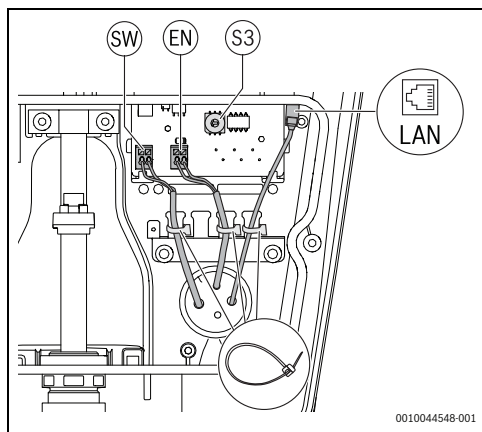

Fig. 64 Raccordements facultatifs de l'interface interne
- Connect a remote release for the upstream RCD or a contractor to the digital output SW (→ Fig. 64, chapter 4.2, page 61, [1]).